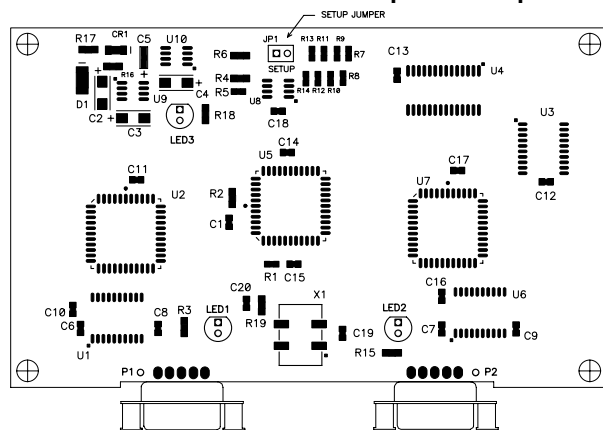

Figure 3.1 Setup Jumper Location
Remove the screws (4) on the bottom of the 232BRC with a Phillips screwdriver. Remove the top cover. Install the setup jumper marked JP1. See Figure 3.1 diagram of the PCB. Power up the 232BRC with the setup jumper installed to put the unit in setup mode. **NOTE: The setup software cannot recognize the connected unit if the setup jumper is not installed or if the jumper is installed after the 232BRC is powered up.**